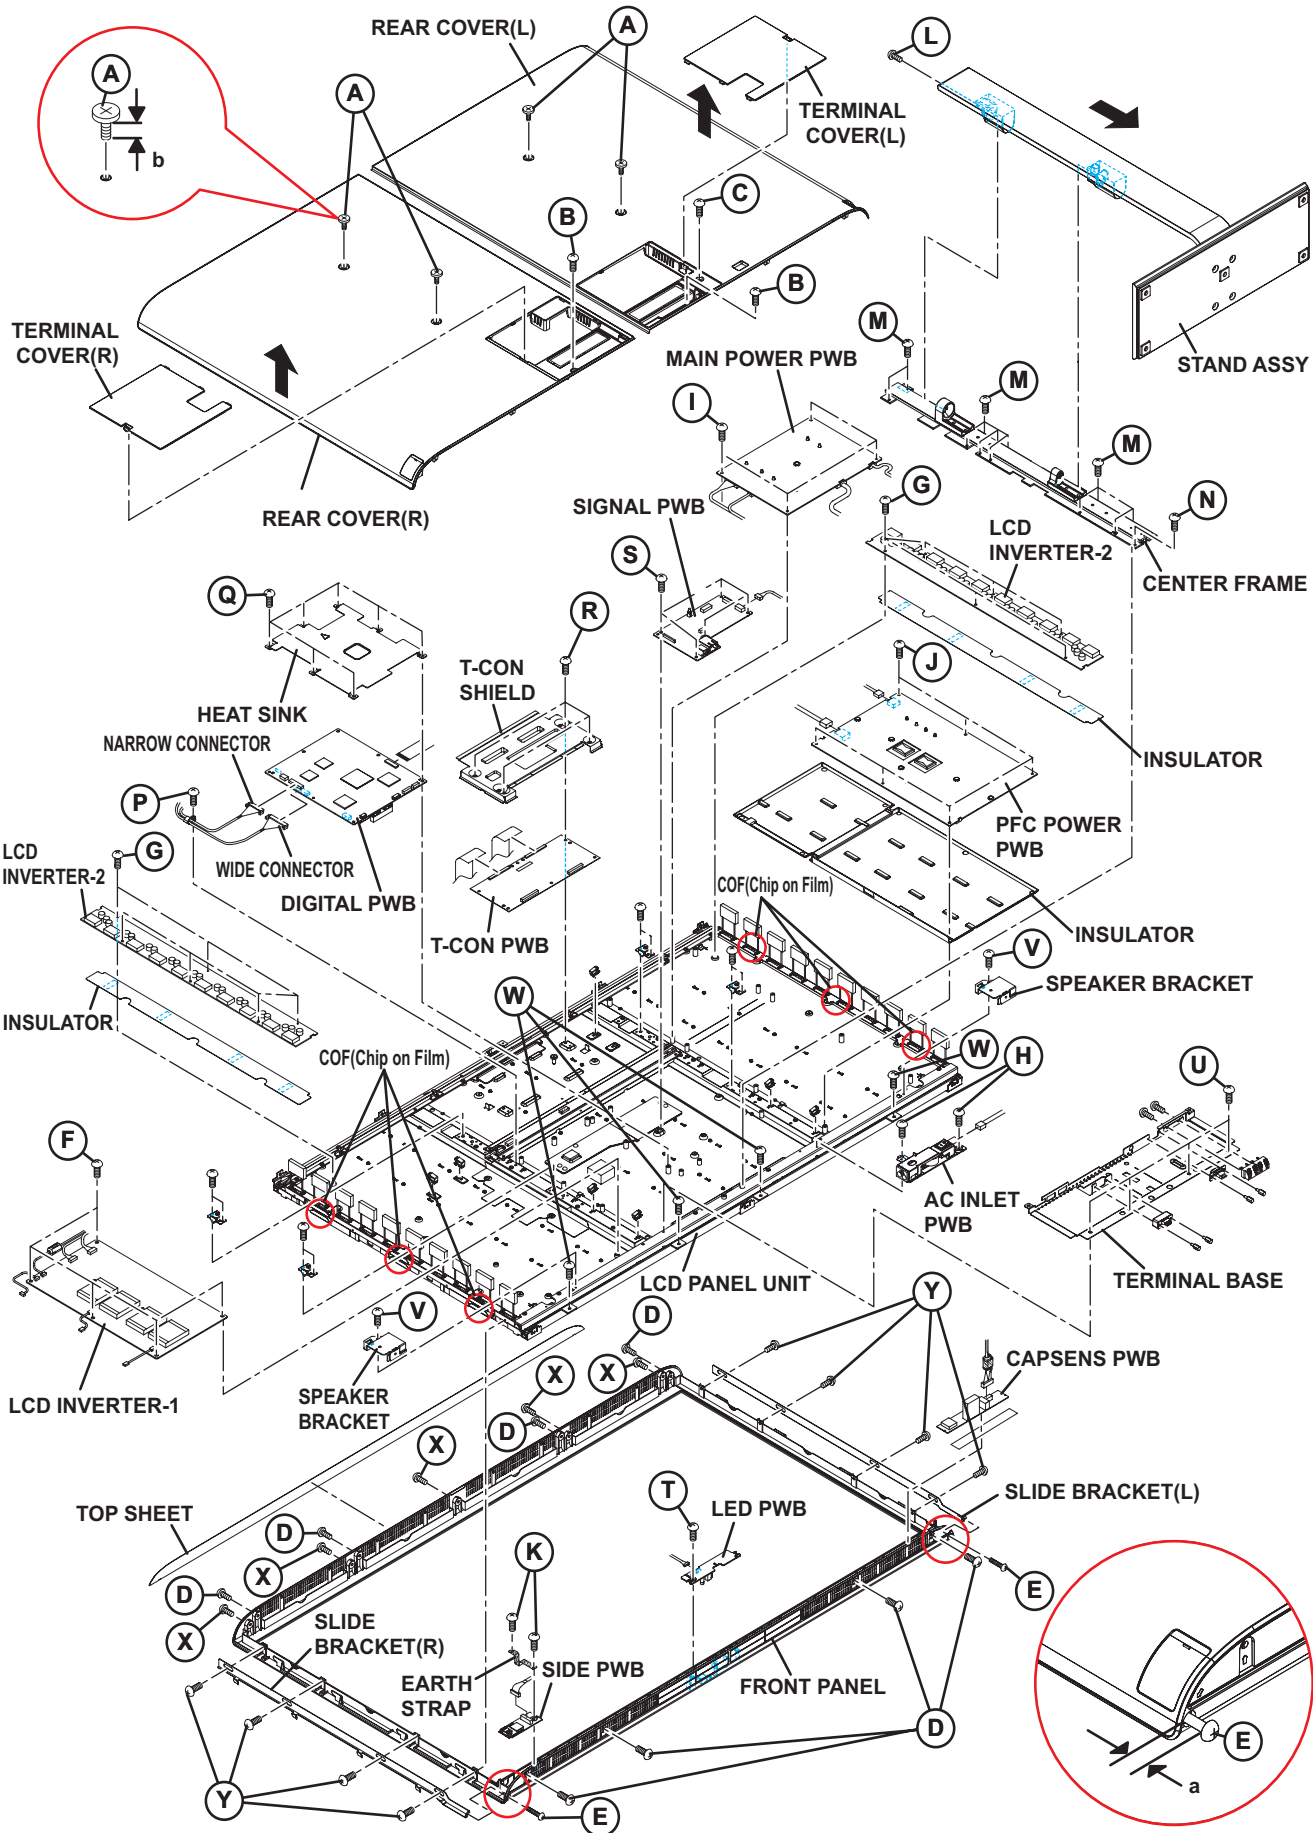

Fig.3-2
3.3.1 REMOVING THE REAR COVER (Fig.3-2)
3.3.2 REMOVING THE INVERTER-1 (Fig.3-2)
- (1) Remove the 5 screw [F].
- (2) Remove the INVERTER-1.
3.3.3 REMOVING THE INVERTER-2 (Fig.3-2)
- (1) Remove the 12 screw [G].
- (2) Remove the INVERTER-2(L/R).
3.3.4 REMOVING THE AC INLET PWB (Fig.3-2)
- (1) Remove the 2 screws [H].
- (2) Remove the AC INLET PWB.
3.3.5 REMOVING THE MAIN POWER PWB (Fig.3-2)
- (1) Remove the 4 screws [I].
- (2) Remove the MAIN POWER PWB.
3.3.6 REMOVING THE PFC POWER PWB (Fig.3-2)
- (1) Remove the 6 screws [J].
- (2) Remove the PFC POWER PWB.
3.3.7 REMOVING THE SIDE PWB (Fig.3-2)
- (1) Remove the 6 screws [K].
- (2) Remove the SIDE PWB.
3.3.8 REMOVING THE CAPSENS PWB (Fig.3-2)
- (1) Carefully peel off the double-faced tape, then remove the CAPSENS PWB.
3.3.9 REMOVING THE STAND (Fig.3-2)
- (1) Remove the 1 screw [L].
- (2) Remove the STAND by sliding it to the direction of the arrow.
3.3.10 REMOVING THE DIGITAL PWB (Fig.3-2)
3.3.11 REMOVING THE T-CON PWB (Fig.3-2)
3.3.12 REMOVING THE SIGNAL PWB (Fig.3-2)
- (1) Remove the 5 screws [S].
- (2) Remove the SIGNAL PWB.
3.3.13 REMOVING THE LED PWB (Fig.3-2)